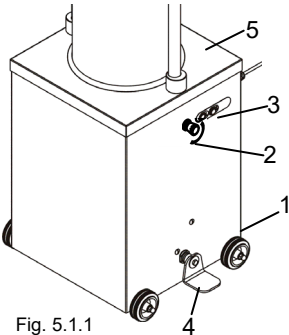

Fig. 5.1.1
Assemble the 16 Ampere plug (not provided) on the feeding calbe "1" of the machine (fig. 5.1.1) and connect it to an outlet with a differential switch that has the proper capacity and is placed ahead of it. In the three-phase version the rotation direction of the motor must be checked by proceeding in the following way:
1. Remove the back carter "5" fig. 5.1.1.
2. Put the differential switch in the position "I", press the start push button "3" in fig. 5.1.1 then press the pedal; at the same time check that the motor turns in the direction indicated by the arrow located on the electrical motor.
When the machine is connected to the supply mains and after having pressed the start push button (fig. 5.1.1) press the pedal and check the movement of the plug in the cylinder. Bring the pedal into the correct central position and make sure that the piston stops.
- Press the start push button "3" (fig. 5.1.1).